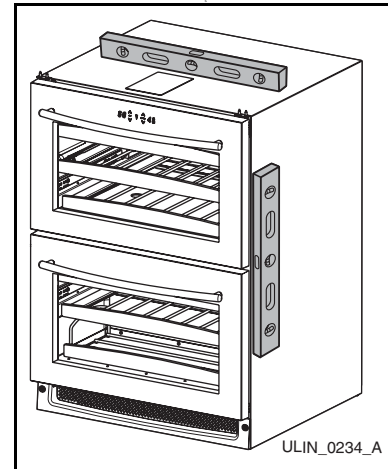

Figure 12
1. Use a level to check the levelness of the unit from front to back and from side to side. Place the level along top edge and side edge as shown (**Figure 12**).